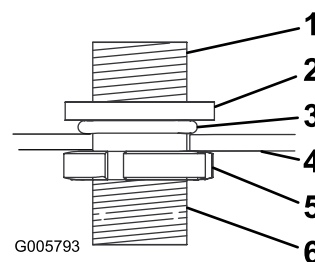

**Figure 5**
- Locate the rinse nozzle bulkhead in loose parts. If the bulkhead is shipped assembled, disassemble as shown in Figure 5.